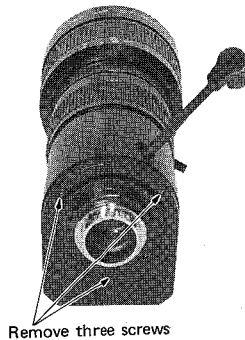

Fig. 1
- Remove three screws which hold the iris back cover and remove the iris back cover. (Fig. 1)